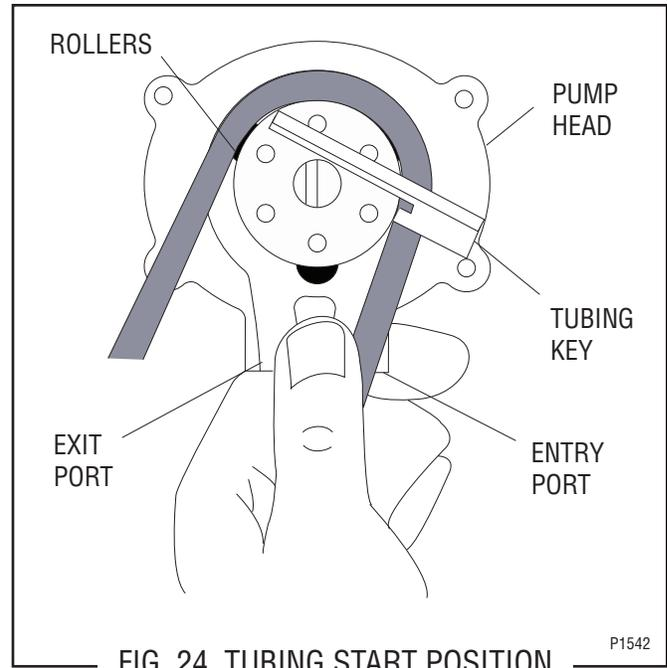

FIG. 24 TUBING START POSITION
3. Hold the new pump head as shown in Fig. 24, with rollers in the 2, 6, and 10 o'clock positions.
4. Reinstall tubing in the new pump head by wrapping the tubing around the rollers as shown in Fig. 24.
5. Insert the slot of the tubing key (supplied), as shown in Fig. 24, on the rotor so the bottom edge of the key is pressing the tubing into the pump head cavity as shown in Fig. 25.